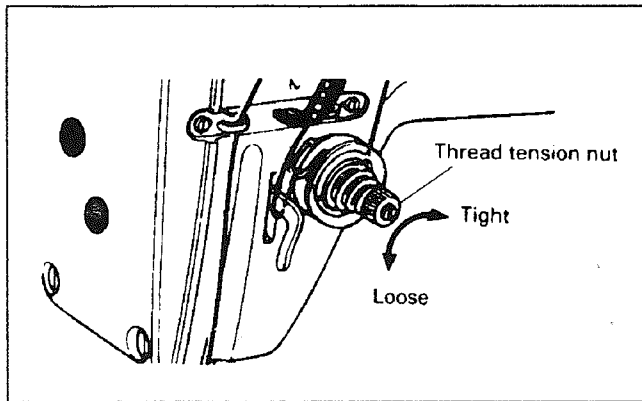

Fig.22
22、 Upper thread tension (Fig.22):